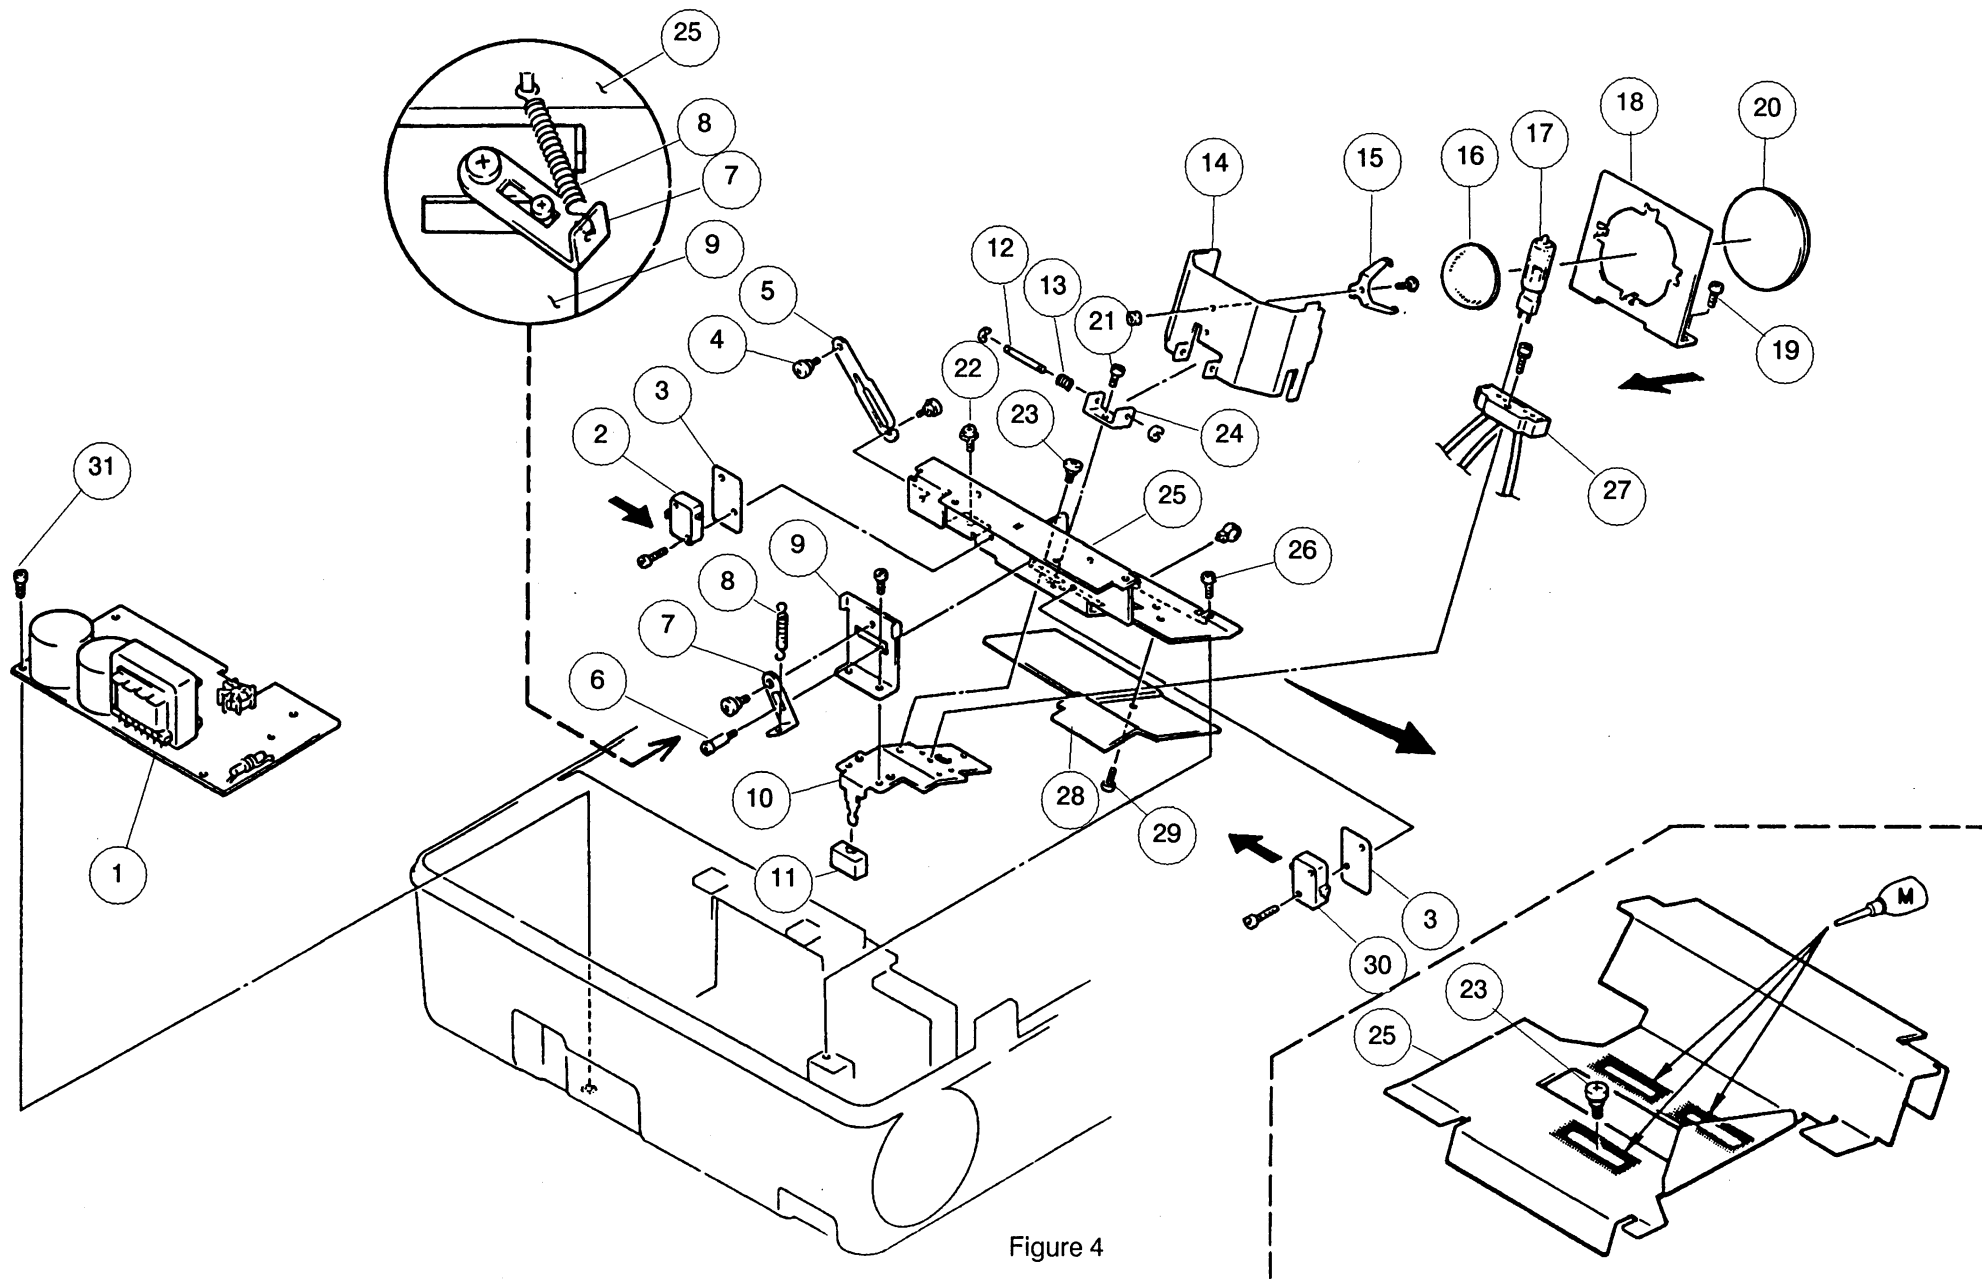

Figure 4
3. Remove the screw (4) that secures the stage frame stopper link (5). (Fig. 4)
2. Remove the five screws (26) that secure the lamp assembly holder (25) and the screw (4) that secures the stage frame stopper link (5). (Fig. 4)
3. Pull off the lamp change knob (11). (Fig. 4)
4. Gently lift out the lamp assembly holder (25) and disconnect the blue and white wires which connect it to the power supply board (1). (Fig. 4)
5. Disconnect the remaining three wires from the power supply board (1) and remove the four screws (31) that secure the board to the main body. (Fig. 4)
Note: For further disassembly of the lamp assembly holder, refer to figure 4.